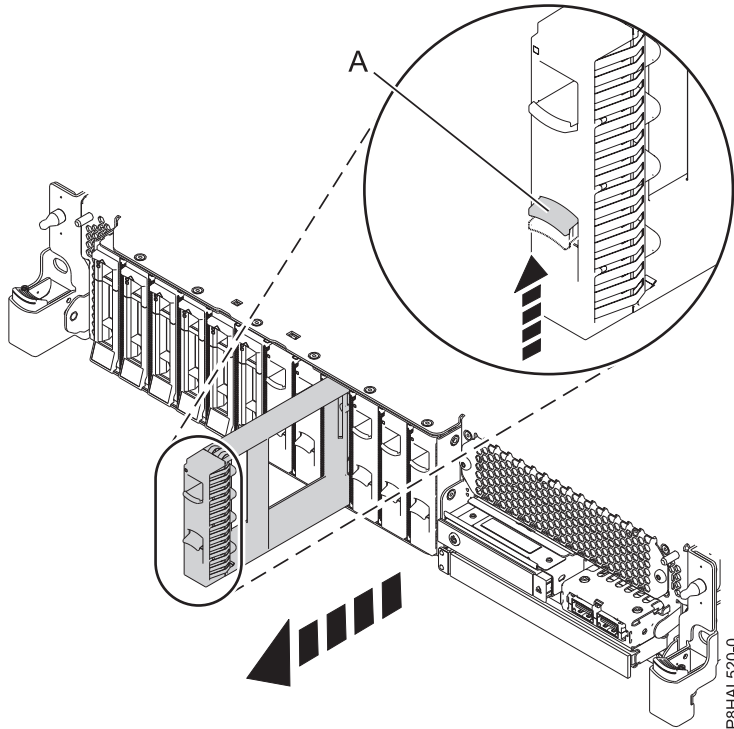

Figure 31. Removing a disk drive filler from a base function system
- a. Push the lock (A) on the handle of the filler in the direction that is shown in Figure 31 on page 33.